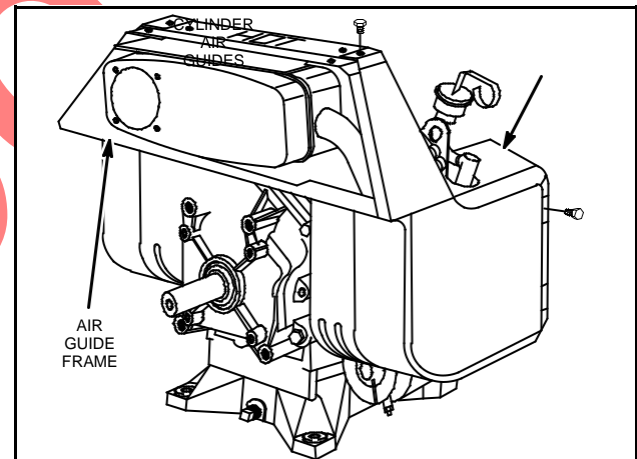

Fig. 2 – Cylinder Ducting
2. Remove cylinder air guides and cylinder shields, Fig. 2 and Fig. 3.